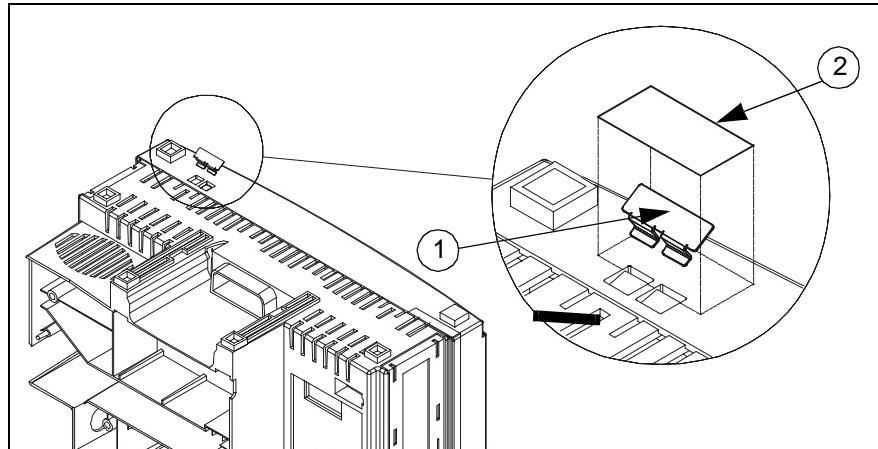

Figure 3-7 Security Clip (1) and Tape (2)
Note: On some monitors, peel-and-stick tape (2) in Figure 3-7 covers locking clips (1) in Figure 3-7 that prevent release of bottom release latches (one for each latch).